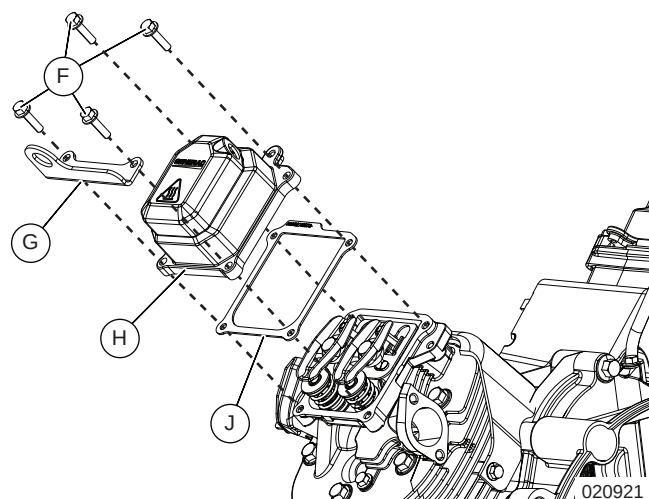

Figure 12-10. Install Rocker Assembly onto Cylinder Head
2. See Figure 12-10. Install rocker cover gasket (J) onto cylinder 1. Use rocker cover bolts (F) to install rocker cover (H) and lifting bracket (G).